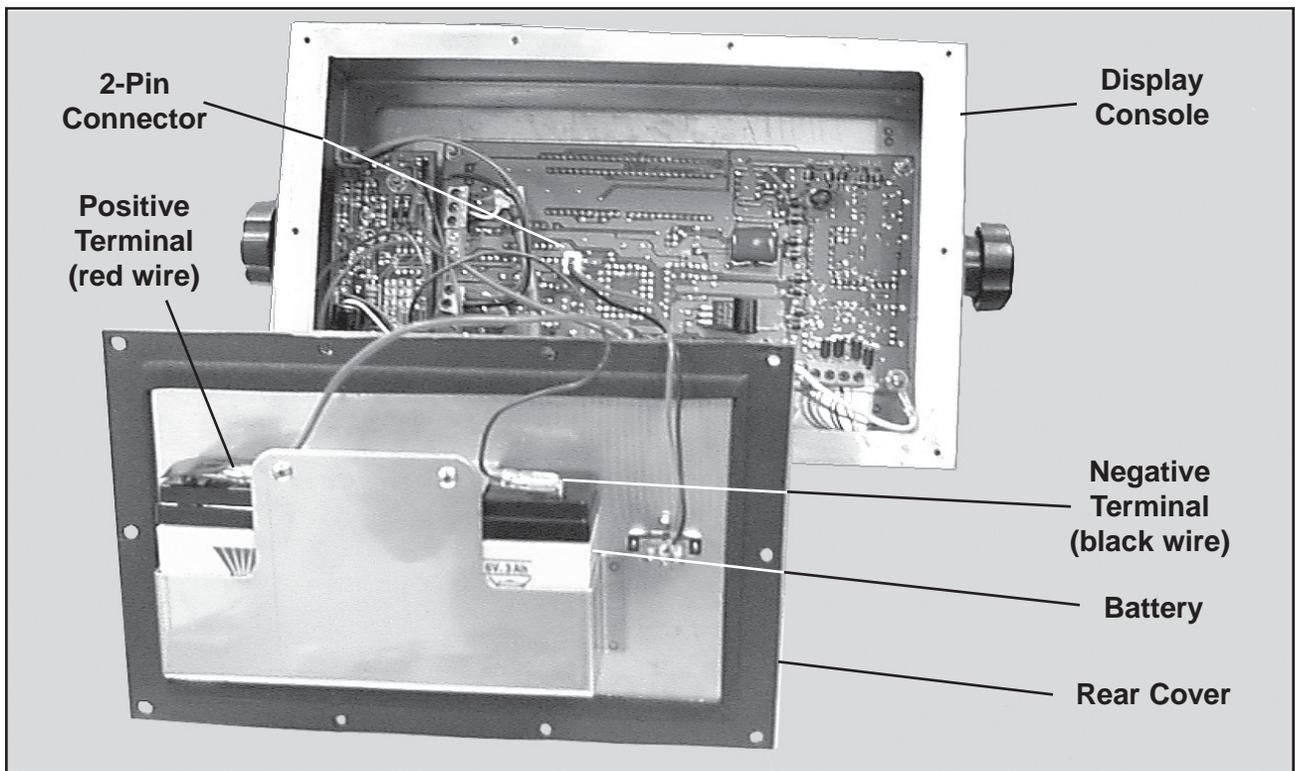

Figure 38. Rear Cover Removed from Display Console
4. Remove the rear cover (Figure 38).
5. Pull the black wire off the negative battery terminal (Figure 38).
4. Place the 2-pin connector back onto the terminal on the printed circuit board (Figure 38).